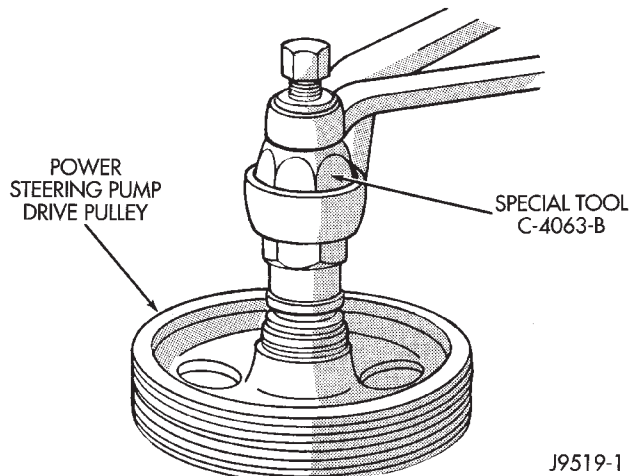

Fig. 6 Pulley Installation
(2) Install pulley on pump with Installer C-4063-B (Fig. 6) flush with the end of the shaft. Ensure the tool and pulley remain aligned with the pump shaft.